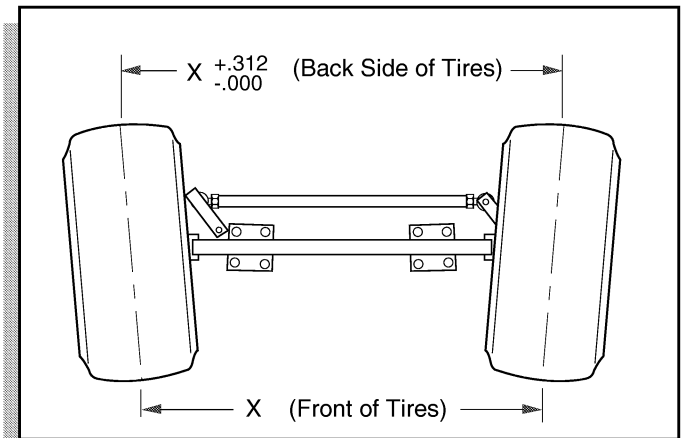

Fig. 5 Toe In Adjustment
**NOTE** Toe in must be checked and adjusted as necessary before being returned to service (Ref Fig. 5 on page E-3).